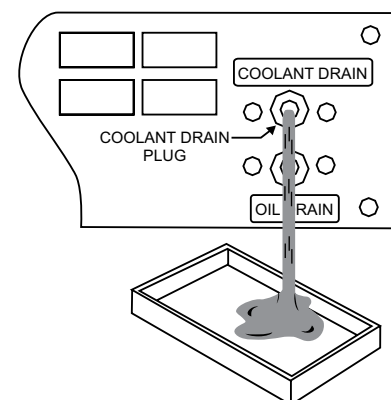

Figure 41. Coolant Drain Plug
1. Remove radiator coolant plug (Figure 41) located at the bottom of the generator enclosure and drain radiator coolant. Open the radiator cap while draining. Remove the overflow tank and drain.